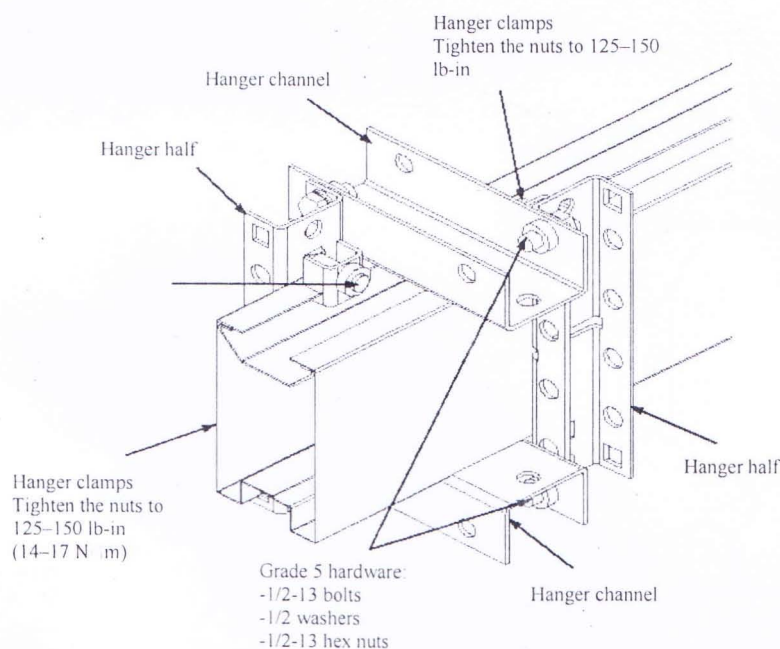

Figure 2: Flatwise Hanger Assembly Mounting
5. Place the second hanger half opposite and diagonally opposed to the installed hanger half and secure it to the hanger channels with the supplied 1/2 in. Grade 5 fastening hardware as shown in Figure 2.